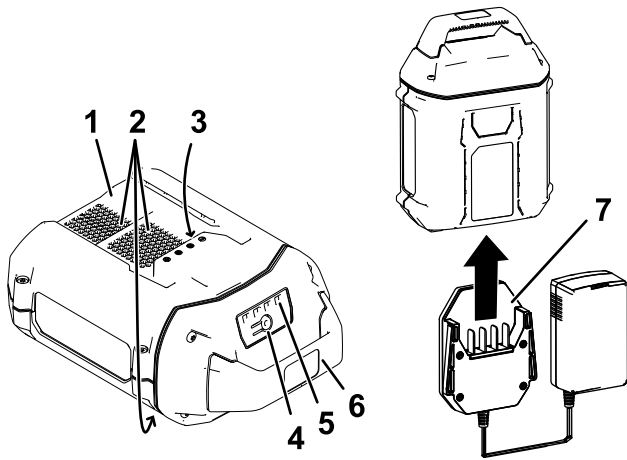

Figure 10
3. Slide the charger into the battery pack until it is fully seated (Figure 10).
2. Line up the charger with the cavity on the back of the battery pack (Figure 10).